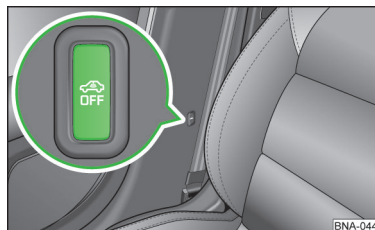

Fig. 25
- Press the  button on the centre column on the driver side » fig. 25; the  symbol lights up in the button.